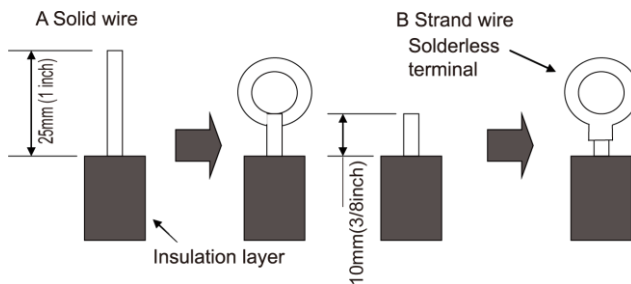

Fig. 4.26
(1). For solid core wiring (Fig. 4.26)
(2). For strand wiring (Fig. 4.26)